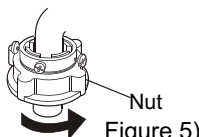

Figure 5)
4. Extend the drain hose from the other side. Fix the drain hose onto the base frame with the drain hose frame. (As indicated in Figure 5)
4. Take off the nameplate. Twist the fastening nut as per the indication of the figure to seal up the outlet end surface of the faucet. See to Figure 5.